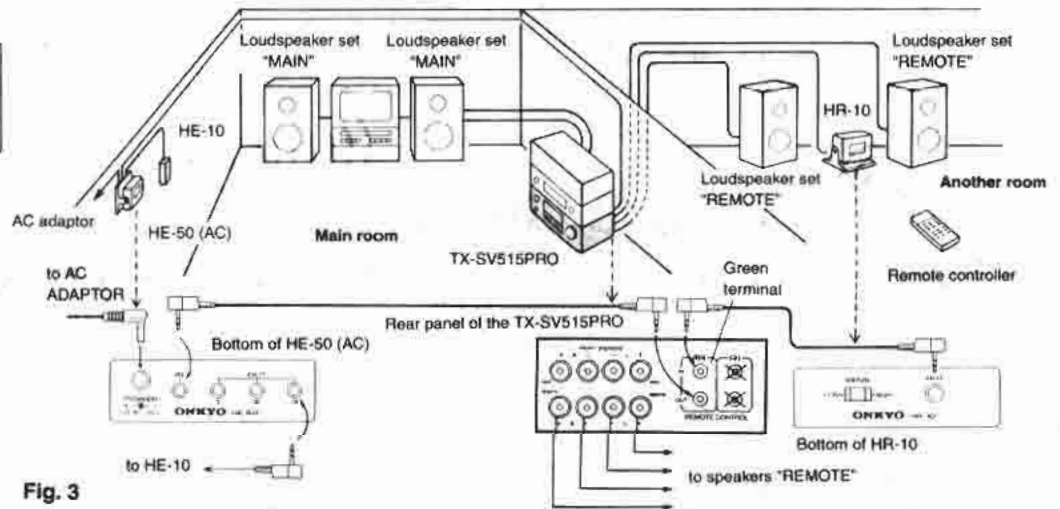

Fig. 3
- A connection example using the HR-10 (option) and HE-50 (AC) (Option) to control components in the main room from another room is shown in Fig. 3.